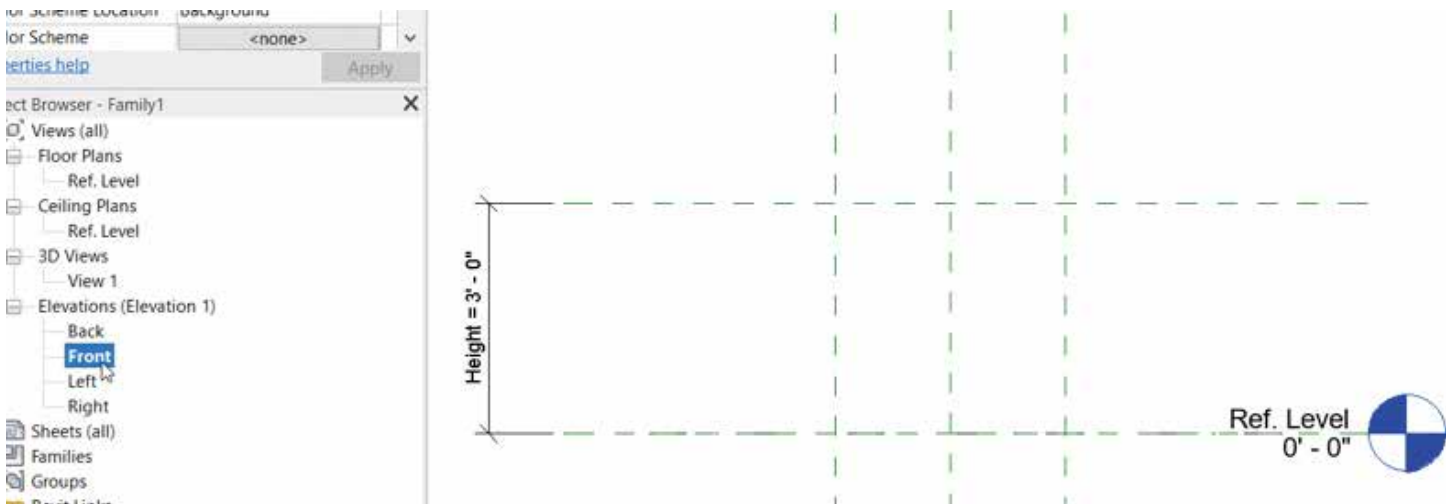

Figure 2.
5. Add the dimensions and add the parameters shown in Figure 2.